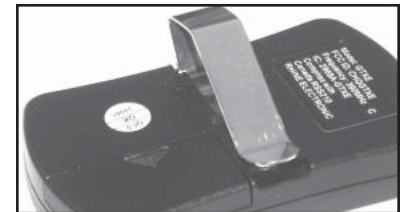

FIG. 8-3 Attach visor clip
- It will snap into place (Fig. 8-3).